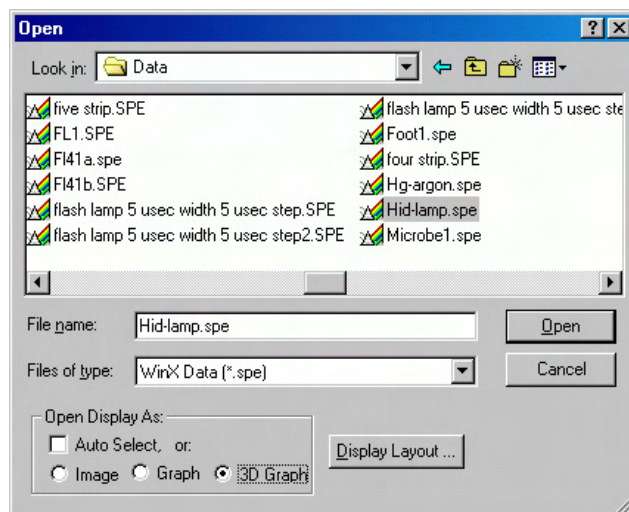

Figure 82. Open dialog box
1. From the File menu select **Open**. The Open dialog box (Figure 82) will appear, allowing you to select the image to be opened. The Look-In box provides a browser function so that the directory where the images are located can be easily accessed. By default the data directory is a subdirectory of the WinSpec program directory. Files of the specified type (the WinSpec/32 data type is *.spe) in the current directory and any subdirectories are listed in the box below the directory name.